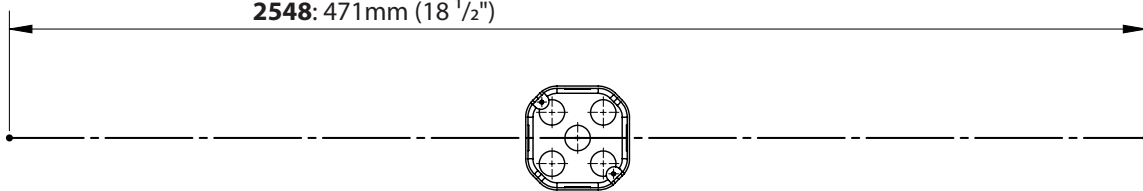

Fig. 1
1. Shut off power to the outlet box (A).
2. Drill fixture mounting holes according to (Fig. 1).